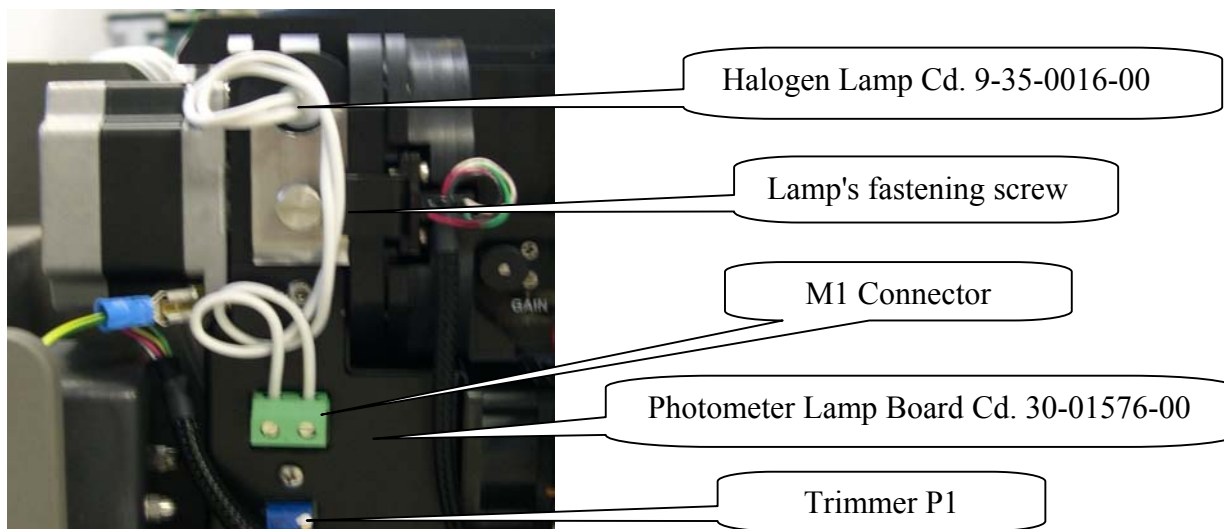

Fig. 3
- 3) Disconnect the power supply wires from the Lamp Regulator Board by loosening the clamp screws on the M1 connector (Fig. 3).
- 4) Unscrew the lamp's fastening screw and remove the lamp from its housing (Fig. 3)
- 5) Replace the old lamp with a new one making sure that the pin is correctly inserted in the alignment hole (Fig. 3). Remount the assembly by repeating the above steps 4 through 1 in inverse order.